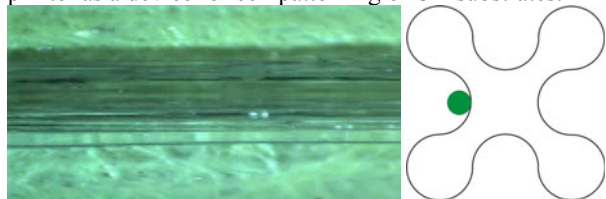
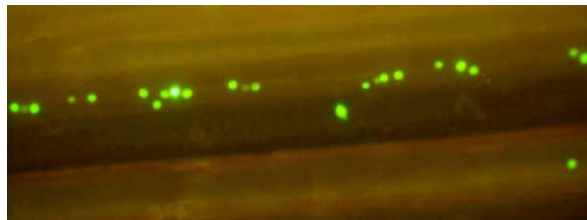

Figure 1. Stereoscope image of 4DG fiber and schematic of cross-section showing cell placement.
Figure 2. Printed cells on PL fiber; day 1, 100x.
**Methods:** A melt flow indexer (Gottfert, Germany) was used to extrude PL (BI) fibers. The die used for extrusion had a 4 channeled configuration (4DG), which resulted in fibers as shown in Figure 1. Fibers were cut to the desired length (22 mm) and were subsequently taped onto glass microscope cover slips (22 sq.mm., Fisher). The entire construct was sterilized using ethylene oxide (Anderson). After sterilization the construct was soaked overnight in medium supplemented with fetal bovine serum to facilitate protein adsorption on the fiber. Bovine mammary epithelial cells (MAC-T, P22) transfected with green fluorescent protein (GFP) were used in this study. Cells were printed on the PL fiber by using patterns designed with word-processing software (Word, Microsoft) and printed using a modified HP Deskjet 340 series printer (Hewlett Packard) [4]. The print solution consisted of  $1 \times 10^6$  MAC-T cells/ml of medium and the pattern consisted of a straight line. The construct was aligned in such a way that the cells (print solution) were printed on the groove of the 4DG fiber. After printing, the cell-fiber construct was transferred to a 6 well-plate and kept in an incubator (37C, 5%CO2) for 2 hours before adding culture medium.
**Results/Discussion:** Figure 1 shows a stereoscope image of the 4DG fiber. Figure 2 shows the cells printed on the polylactide fiber, after Day 1. As can be seen from the image, the cells were printed in a groove of the 4DG fiber in a single line, indicating the potential of the modified ink-jet printer as a device for cell patterning on 3D substrates.